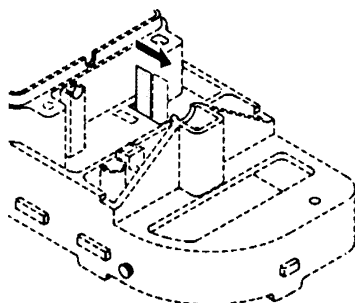

Fig. 17
8. The metal ratchet tab slides out of its slot sideways; replace it by sliding in a new one until it is flush with the edge of plastic holder (Figures 17 and 18).